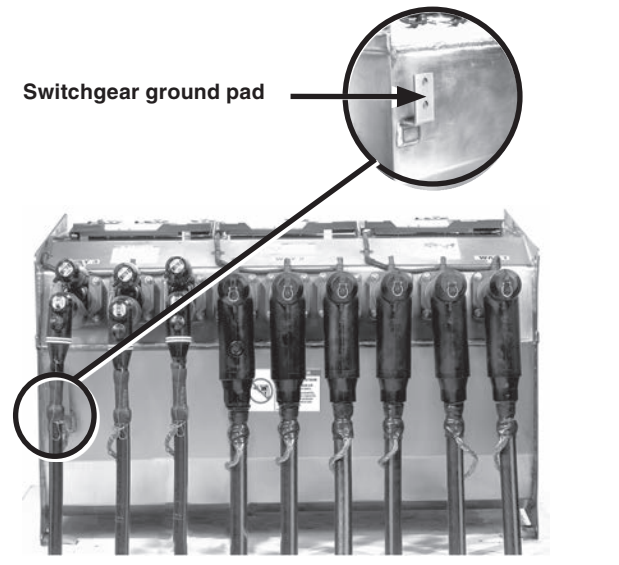

Figure 7. Connect the switchgear ground pad to a suitable earth ground. Ground in accordance with user's standard grounding practice (grounding not shown).
STEP 6. Connect the ground pad of the switchgear to the system ground facility in accordance with the user's standard grounding practice. See Figure 7.